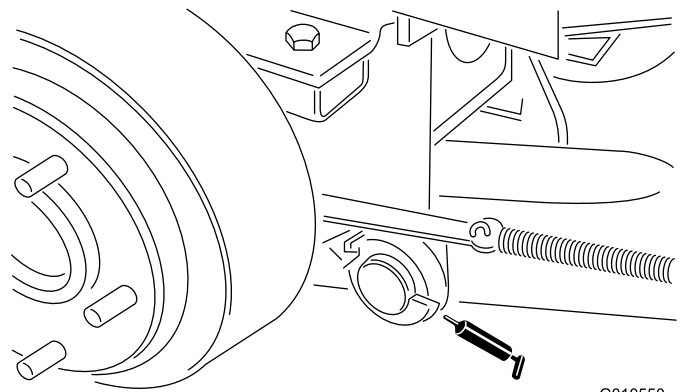

Figure 14
- right and left lift arm pivot pins (Figure 14)